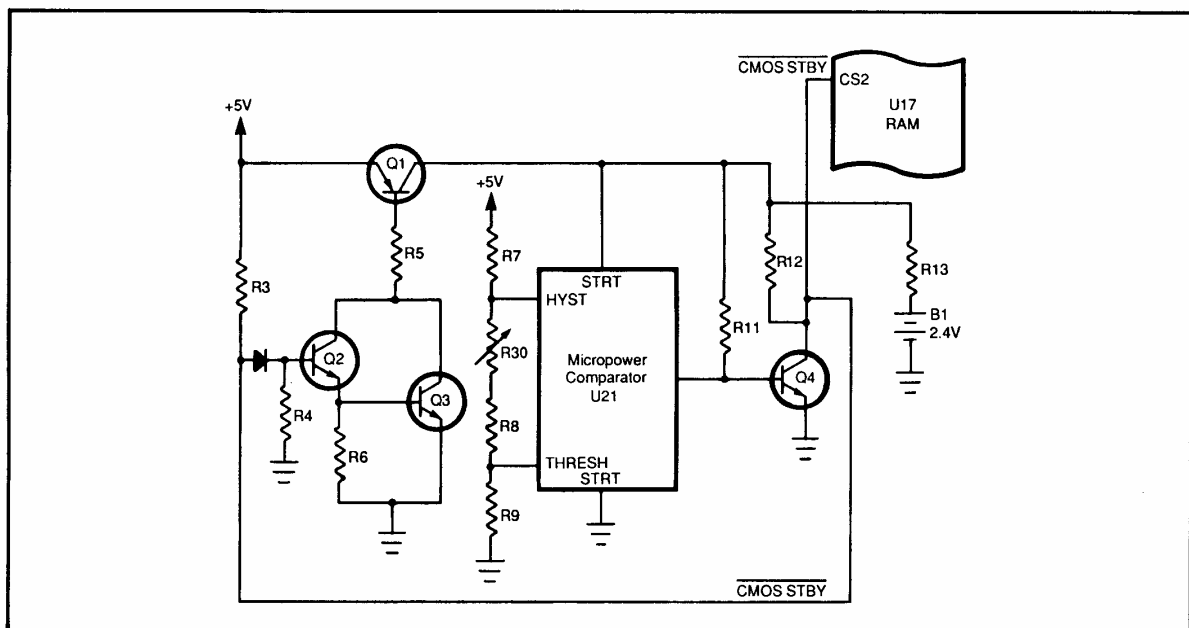

Figure 8-65. RAM Control Circuit
2. RAM Control. This section, upon detecting a power failure, supplies an inhibit signal and a reduced, battery-supplied voltage to the RAMs. It consists of microcomparator U21, transistors Q1 thru Q4 and associated components (Figure 8-65).